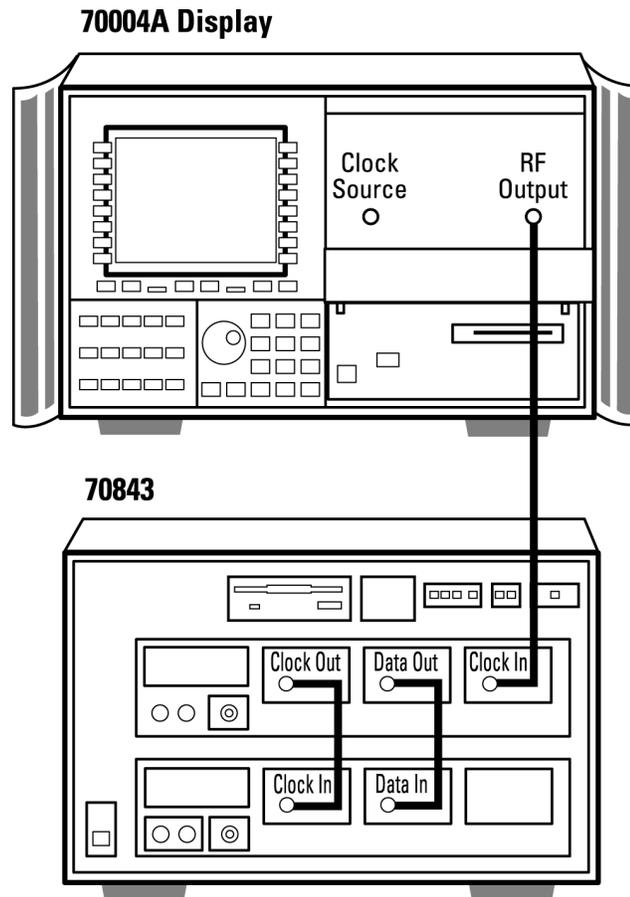

Figure 5-4 System Back-to-Back Connection
2. Connect the pattern generator DATA OUT and CLOCK OUT ports to the error detector DATA IN and CLOCK IN ports respectively. Terminate any unused ports with 50 Ω terminations (HP part number 1250-2121). See Figure 5-4 on page 5-8. Ensure the HP 70843 error performance analyzer and HP 70004A display rear-panel HP-MSIB ports are connected.